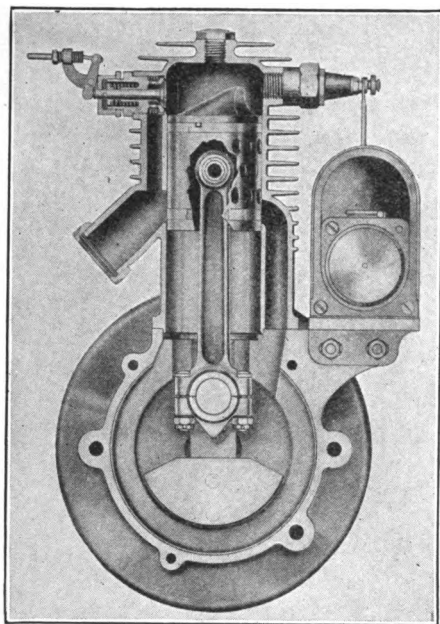

Fig. 16. Single-Cylinder Motorcycle Motor
cylinder is constructed as shown in Figs. 16 and 17. In order, therefore, to secure the above action, the following mechanical devices must be provided: (1) A cylinder containing a freely moving piston, capable of being lubricated effectively; (2) a combustion chamber in whose walls are valves for the admission and exhaust of the gas, and valve seats so arranged that the joints will remain gas-tight when desired; (3) an outside, dependable means of ignition, with sparking points inside the combustion chamber; (4) a source of fuel supply, which, in the ordinary engine, must convert liquid into a vapor; and (5) a cylinder construction which will carry off the surplus heat or allow of its being carried off.
or V-twin cylinder. Some of the later models, however, are showing four-cylinder motors. In Figs. 16 and 17 are shown the standard types of engines found in motor-cycles.